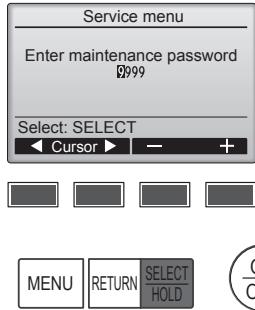

Fig. 6-2
① Select "Service" from the Main menu, and press the [SELECT/HOLD] button.
② When the Service menu is selected, a window will appear asking for the password. (Fig. 6-2)